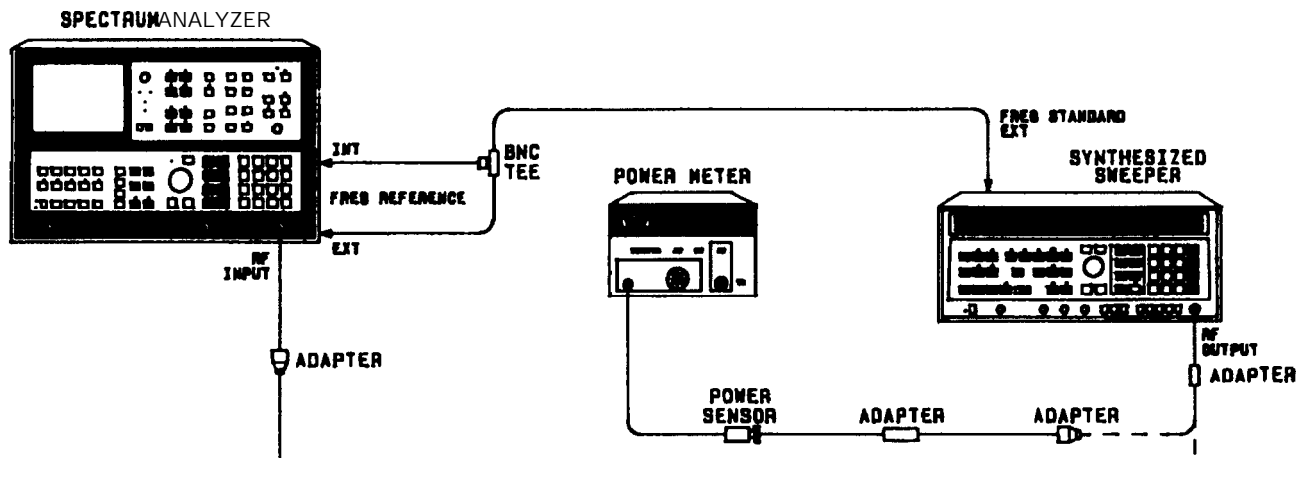

Figure 2-32. Gain Compression Test Setup
3. Connect equipment as shown in Figure 2-32, with output of synthesizer connected to power sensor. Power is measured at the end of the cable assembly, not at the synthesizer output connector. Adjust synthesizer output level for a power meter indication of -25.00 dBm f0.05 dB.
4. Disconnect cable assembly from power sensor and connect free end to spectrum analyzer RF INPUT as indicated in Figure 2-32. Key in analyzer settings as follows: